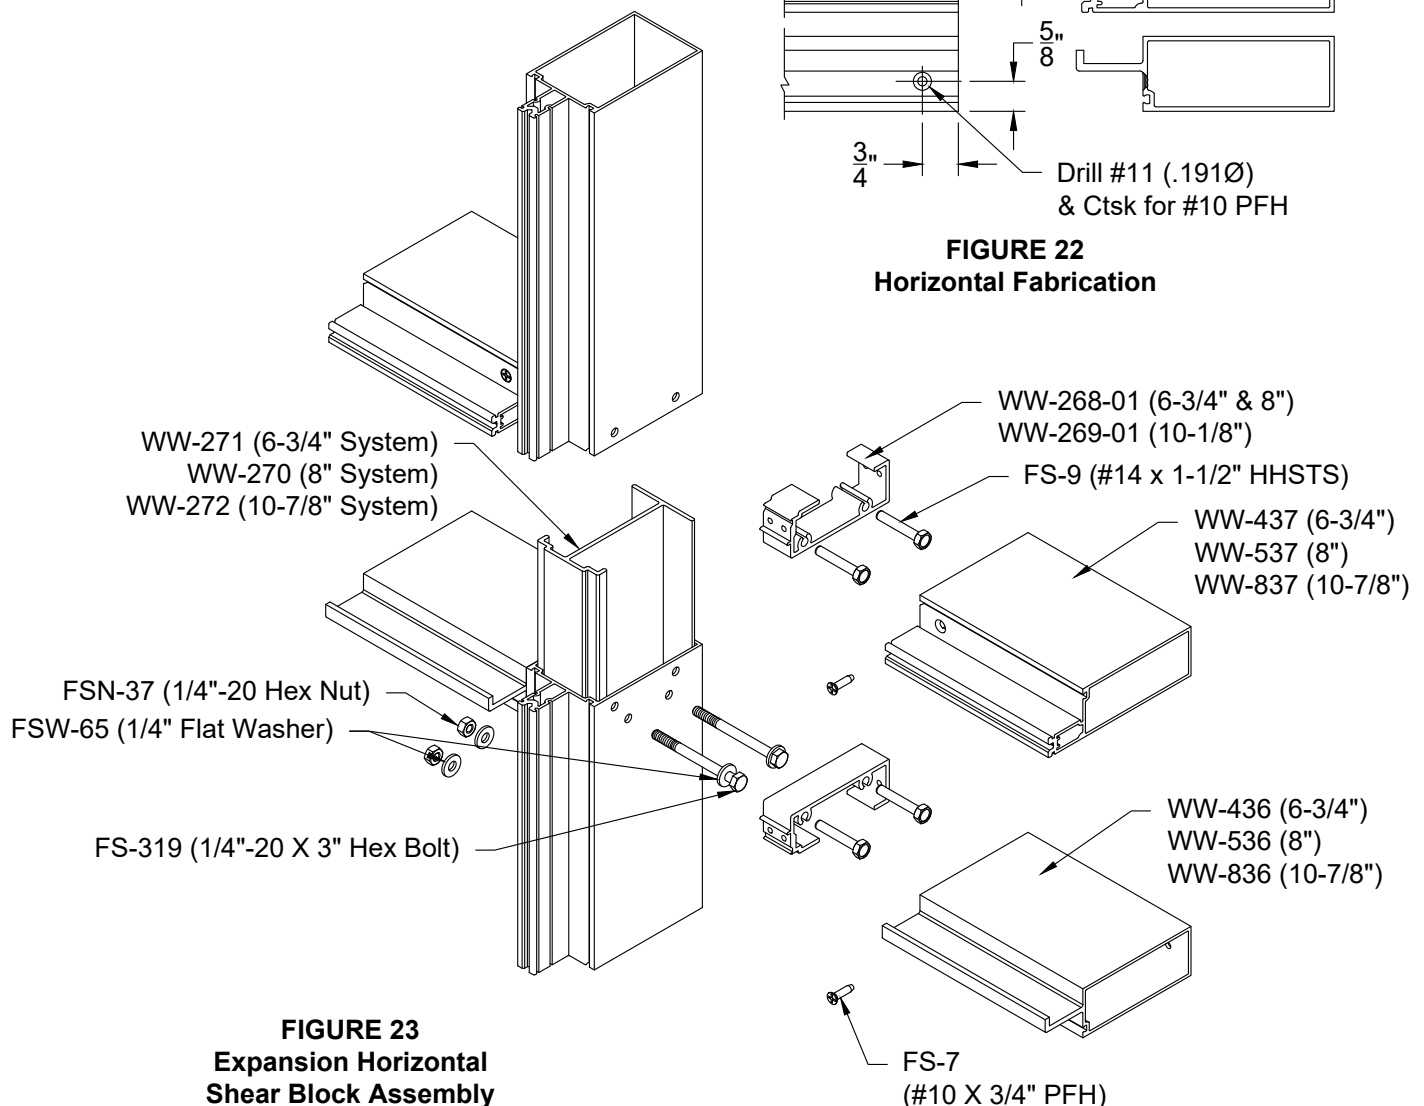

FIGURE 23
- 2.32 FIGURE 23 below shows the shear block assembly for the dual horizontal expansion assembly. Use the Reliance Installation Manual for typical wall assembly.